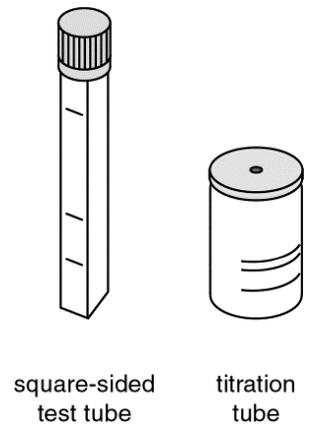

Figure 3. Tubes used in water testing.
1. Open your water testing kit. Find the **square-sided** test tubes: there are four of them, made of plastic with plastic caps. Find the titration vials: there are two of these; they are **round-sided**, glass, and their plastic caps have a hole in the middle. See Figure 3. You must use the correct tube for each water test later.